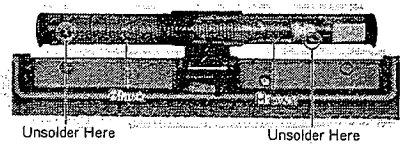

Fig. 20
2. Unsolder lead wires from core antenna, as shown in fig. 20.